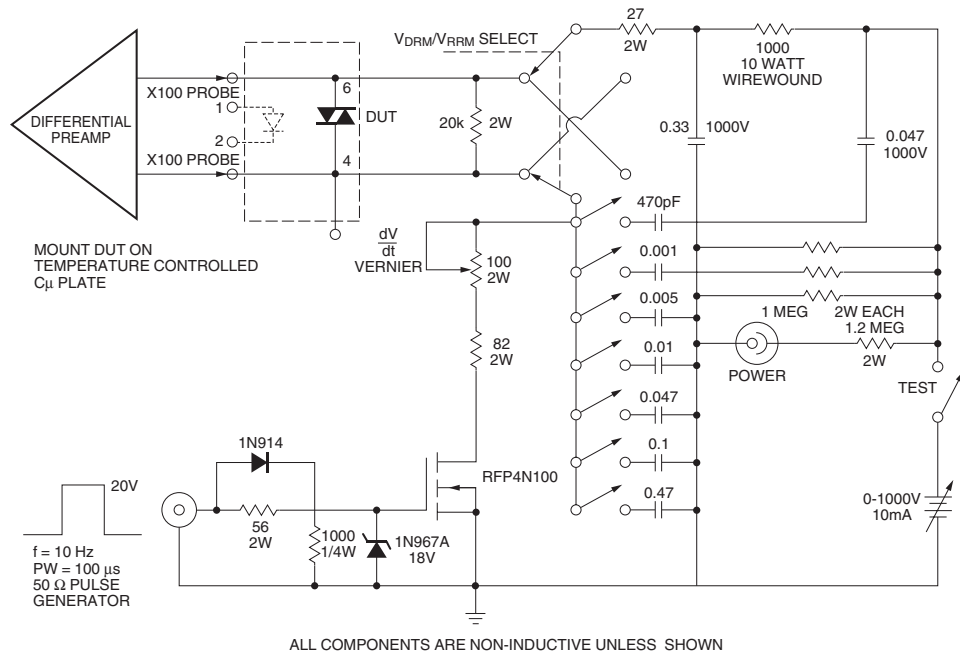

Figure 9. Circuit for Static $\frac{dv}{dt}$ Measurement of Power Thyristors
- This is static dv/dt. See Figure 9 for test circuit. Commutating dv/dt is a function of the load-driving thyristor(s) only.